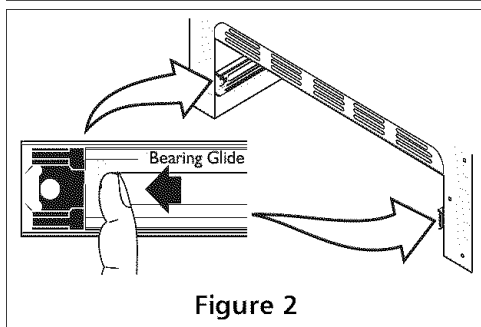

Figure 2
1. Pull the bearing glides to the front of the chassis glide (see figure 2).